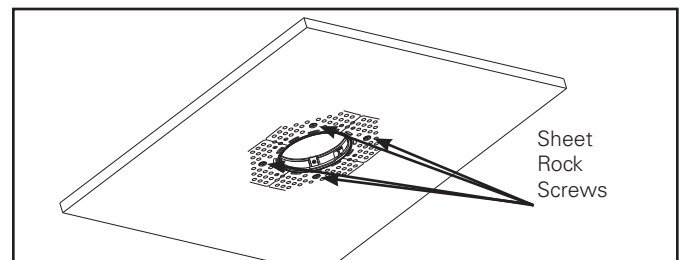

Figure 4.
9. Drive 4 sheet rock screws into the applicable holes of the lathing ring (see Figure 4). The sheet rock screws will thread into the slots on the tabs (tabs will act as a "nut" to hold the lathing ring snug to the ceiling). Apply uniform pressure across the perforated flanges forming a tight bond with the ceiling. Allow sufficient cure time as recommended by the adhesive manufacturer before applying any joint compound.